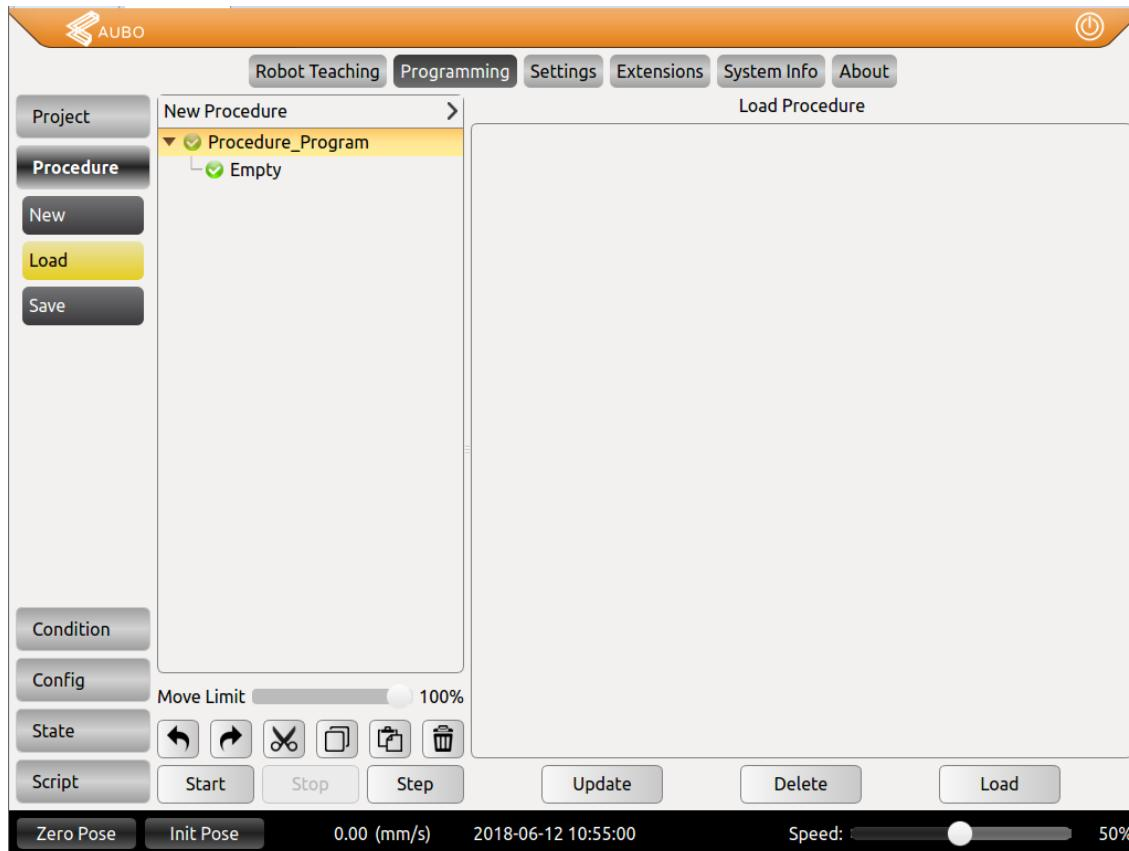

Figure 11.7 Procedure Project
- Manually move mode can be used when auto move is not suitable. As shown in figure 11.7,